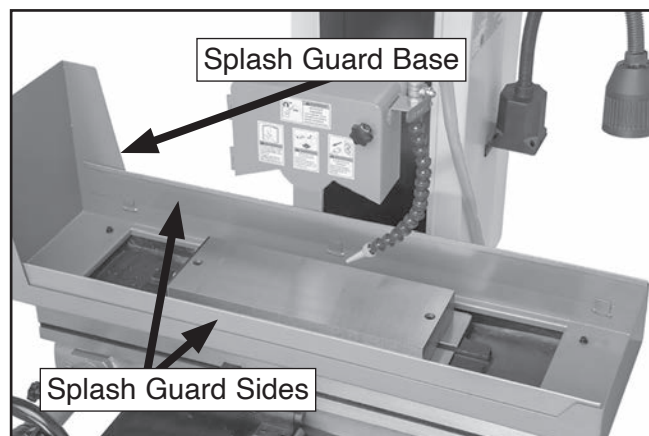

Figure 33. Splash guard sides installed.
19. Insert splash guard sides into slots on each side of splash guard base, as shown in **Figure 33**.